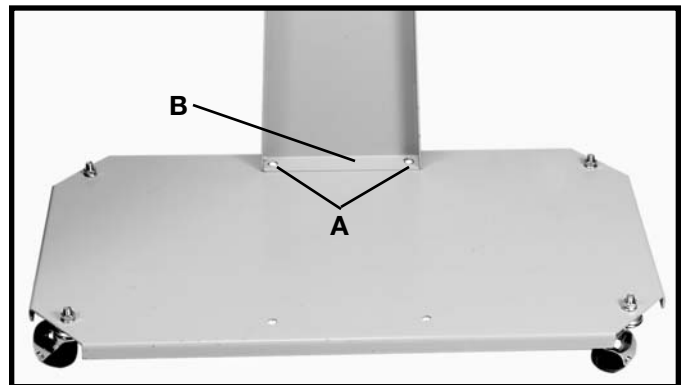

Fig. 5
1. Place the dust collector base (A) Fig. 5, in an upright position as shown.
2. Align the two holes in the bottom of side support (B) Fig. 5 with the two holes (A) in the base.